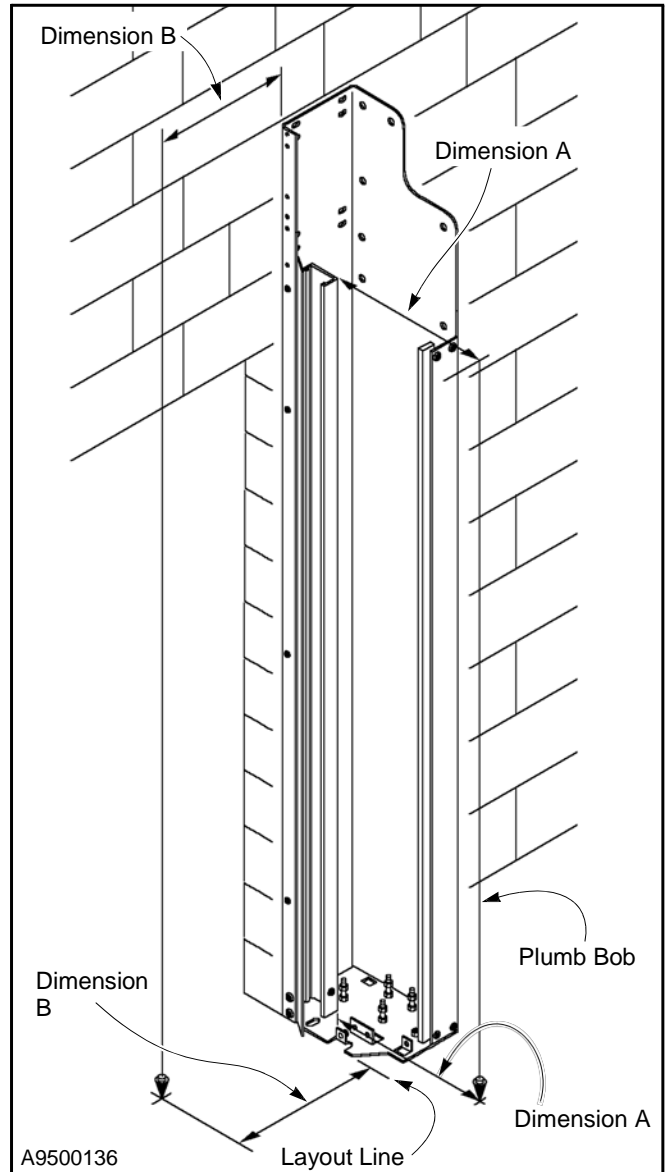

Figure 13
2. Stand the side column assembly on the floor, with the back of the column firmly against the wall. (See Figure 13.)
To check for plumb, measure a few inches away from the face of the side column, near the top (Dimension A) and drop the plumb bob. (See Figure 13.)
Also, measure a few inches away from the side of the column near the top (Dimension B) and drop the plumb bob. (See Figure 13.) Mark the floor where the plumb bob touches. Compare the upper measurement to the lower measurement. Lean the column to the left or the right until the two measurements are equal and the column is plumb with the floor (or shim plate).